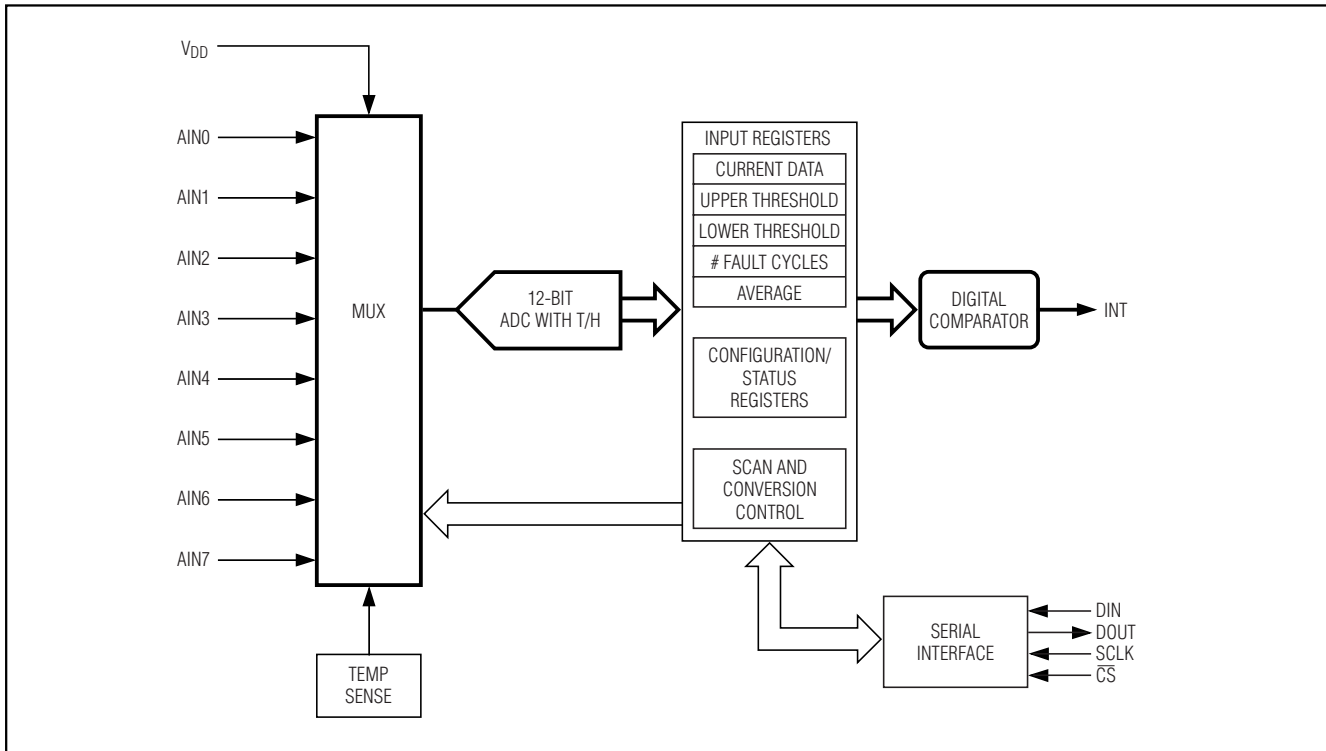

Figure 3. Simplified Alarm Block Diagram of the MAX1253/MAX1254
- Note 6:** See Figure 3 and the Sampling Error vs. Input Source Impedance graph in the *Typical Operating Characteristics* section.
The MAX1253/MAX1254 are precision-monitoring integrated circuit systems specifically intended for stand-alone operation. They can monitor diverse types of inputs, such as those from temperature sensors and voltage signals from pressure, vibration, and acceleration sensors, and digitize these input signals. The digital values are then compared to preprogrammed thresholds and, if the thresholds are exceeded, the processor is alerted by an interrupt signal. No interaction by the CPU or microcontroller (μC) is required until one of the programmed limits is exceeded (Figures 3 and 4).